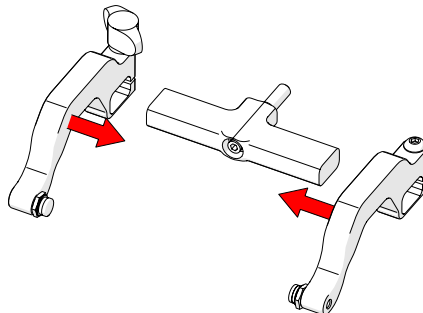

Fig. 184 - Place arms back onto yoke
6. Place the probe holder arms on the yoke and tighten the arm clamp screw and probe holder adjustment knob (Fig. 184).